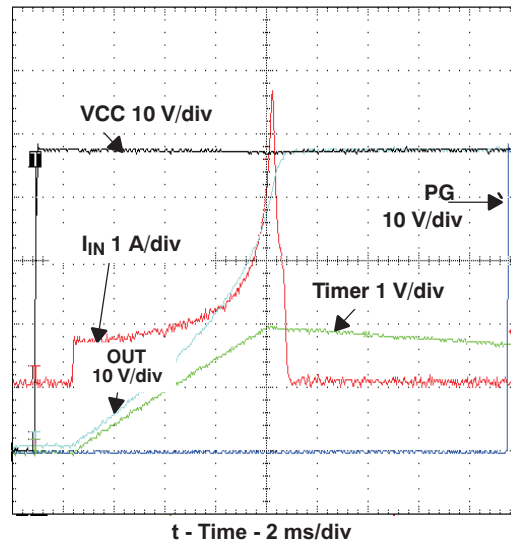
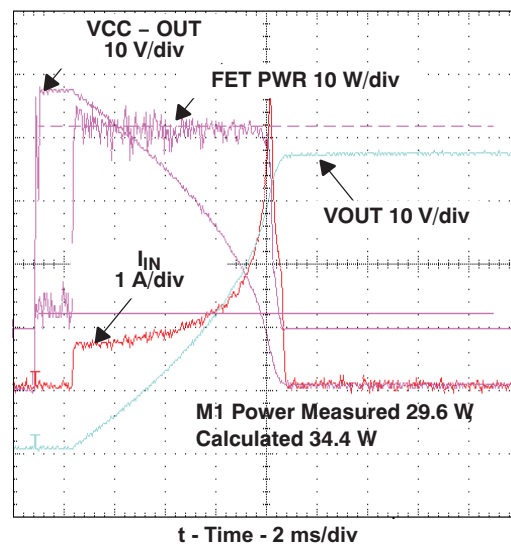
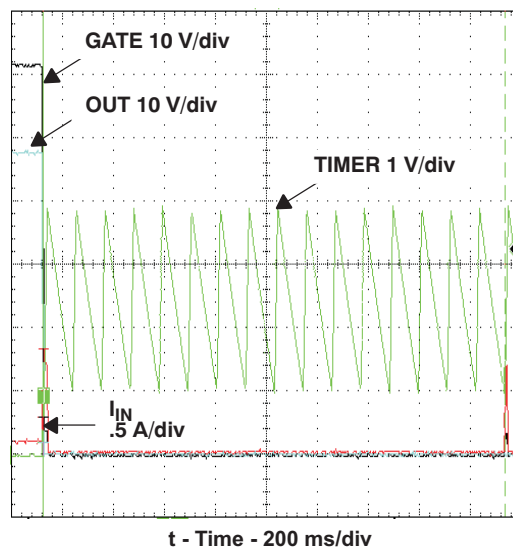

Figure 13. Basic Board Insertion
Figure 14. Computation of Q1 Stress During Startup
Figure 17. TPS2491 Restart Cycle Timing
A capacitor may be tied from PROG to ground to alter the natural constant power inrush current shape. If properly designed, the effect is to cause the leading step of current in Figure 13 to look like a ramp.
The typical application circuit, and oscilloscope plots of Figure 13 through Figure 17 demonstrate many of the functions described Device Functional Modes.
### 7.4.1 Board Plug-In (Figure 13)
### 7.4.2 TIMER and PG Operation (Figure 13)
7.4.3 Action of the Constant Power Engine (Figure 14)
The calculated power dissipated in Q1,  $V_{DS} \times I_D$ , is computed under the same startup conditions as Figure 13. The current of Q1, labeled  $I_{IN}$ , initially rises to the value that satisfies the constant power engine; in this case it is  $34\text{ W} \div 48\text{ V} = 0.7\text{ A}$ . The 34 W value is programmed into the engine by setting the PROG voltage using Equation 2 given in the PROG.  $V_{DS}$  of Q1, which is calculated as  $V_{(SENSE-OUT)}$ , falls as  $C_O$  charges, thus allowing the Q1 drain current to increase. This is the result of the internal constant power engine adjusting the current limit reference to the GATE amplifier as  $C_O$  charges and  $V_{DS}$  falls. The calculated device power in Figure 14, labeled FET PWR, is seen to be flat-topped and constant within the limitations of circuit tolerance and acquisition noise. A fixed current limit is implemented by clamping the constant power engine's output to 50 mV when  $V_{DS}$  is low. This protection technique can be viewed as a specialized form of foldback limiting; the benefit over linear foldback is that it yields the maximum output current from a device over the full range of  $V_{DS}$  and still protects the device.
### 7.4.5 Automatic Restart (Figure 17)
A capacitor can be connected from the PROG pin to ground to reduce the initial current step seen in Figure 13 based on the Typical Application circuit. This method maintains a relatively fast turn-on time without the drawbacks of a gate-to-ground capacitor that include increased short circuit response time and less predictable gate clamping.